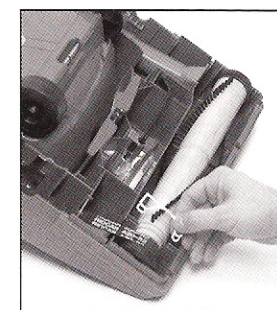
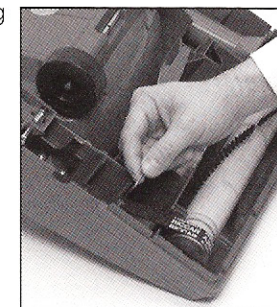

Fig. 20
Fig. 21
1. Remove bottom plate (See "Removing and reinstalling bottom plate"). Remove vented support fitting [Fig. 20] and belt guard [Fig. 21].
2. Take out the agitator assembly and remove worn or broken belt from agitator pulley and motor drive shaft [Fig. 21].